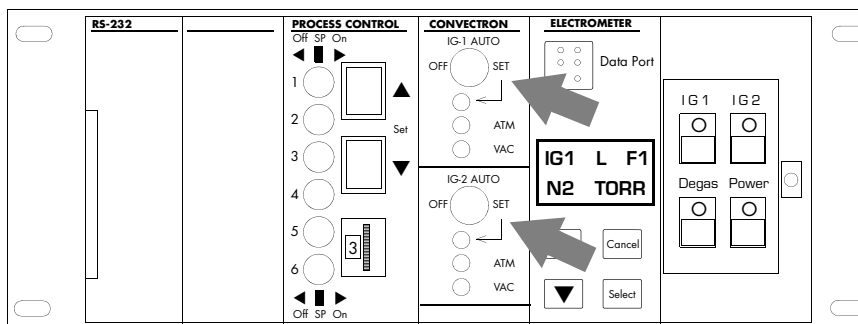

Figure 4-15 Control Unit Front Panel (with Door Open) Showing Ionization Gauge Auto Turn-On/Off Switches
1. Place the AUTO switch for IG1 in the SET position. See Figure 4-15.